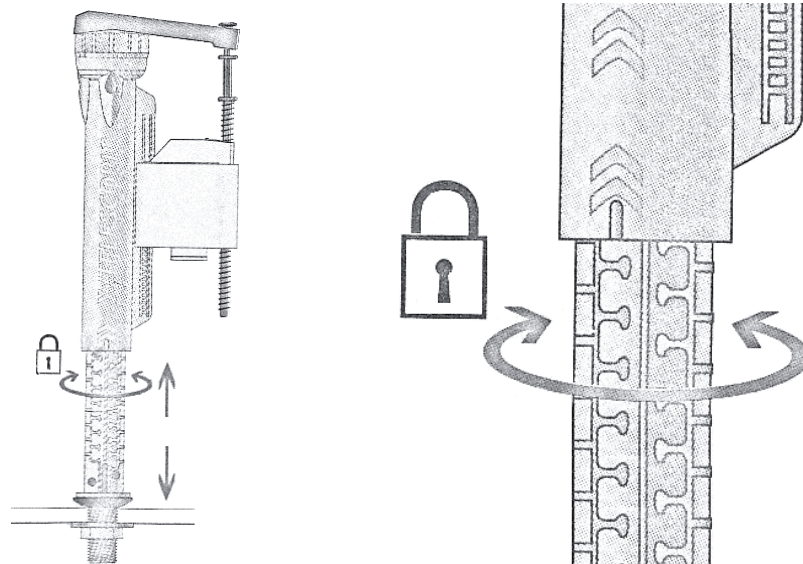

Fig. 1
1. Remove the backnut from the inlet valve (D). Insert the inlet valve into the hole in the base of the cistern (B) ensuring that the rubber washer is on the inside of the cistern and secure using the backnut. Adjust the height of the inlet valve as required and twist to lock the valve in position. (See **Fig. 1**). Ensure that the inlet valve height is securely locked in position.
17. Using the method shown in Step 1 and by adjustment of the inlet valve float, adjust the height of the inlet valve so that the cistern fills to the marked 6 litre waterline and shuts off when the line is reached. Ensure that the inlet valve is locked in position (also shown in Step 1 and **Fig. 1**).
19. Fit the cistern lid (C) onto the cistern (B) and if required, secure with screws (N).